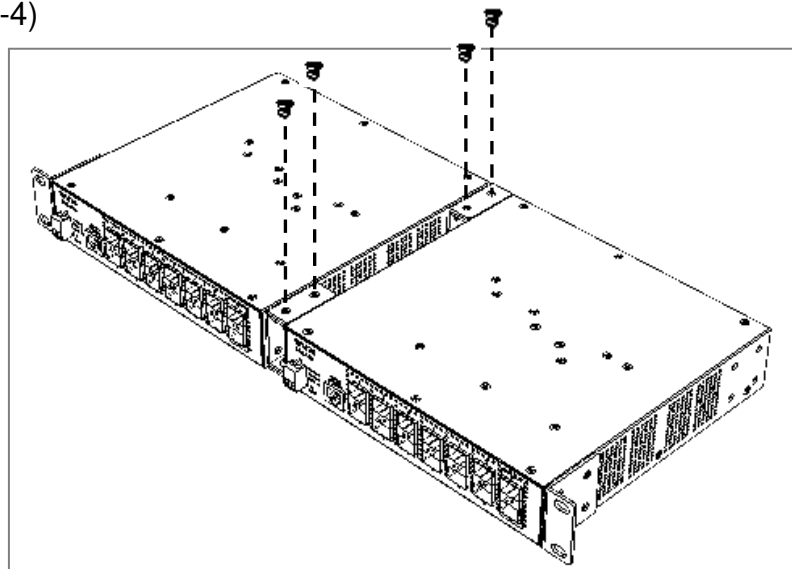

Figure 2-4. Screw the locked switches for two-switch mounting
Step 4. Insert the screws provided in the combine kit through the holes into each middle mount. (See Figure 2-4)